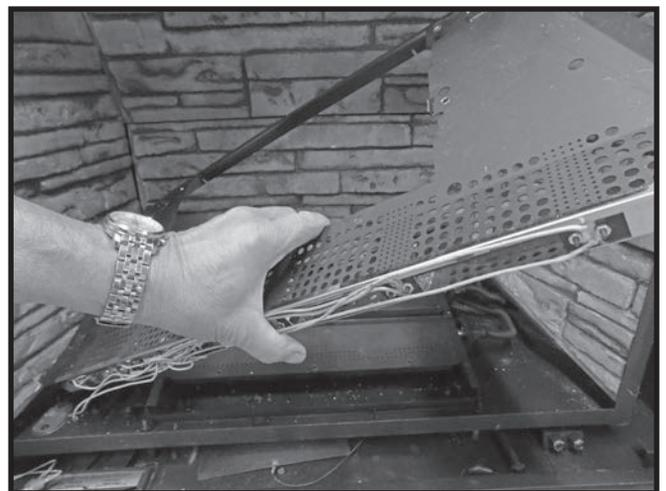

Figure 72: Putting burner tray in place.
5. Position the burner tray over the front and rear burners and secure to the burners assembly (Figure 72).